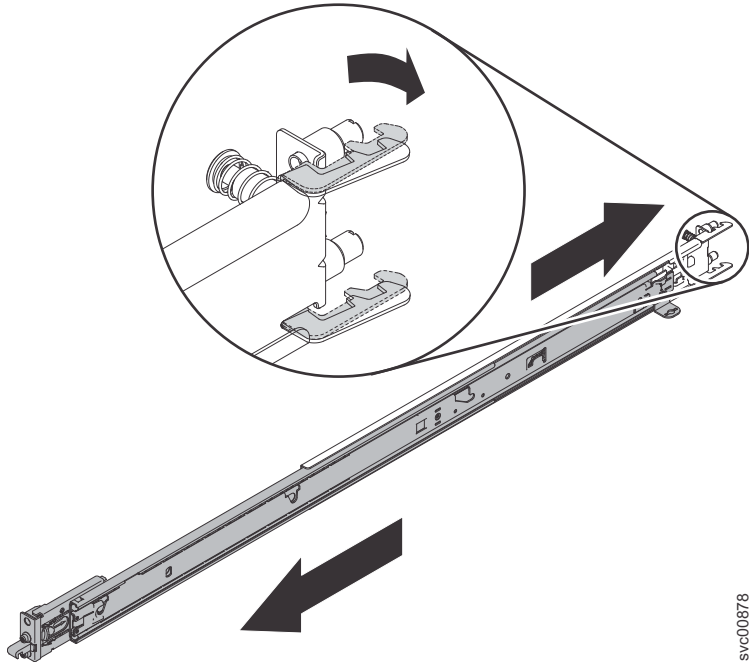

Figure 45. Opening the rear slide-rail hooks
2. Open the rear-slide-rail hooks, as shown in Figure 45 on page 62.